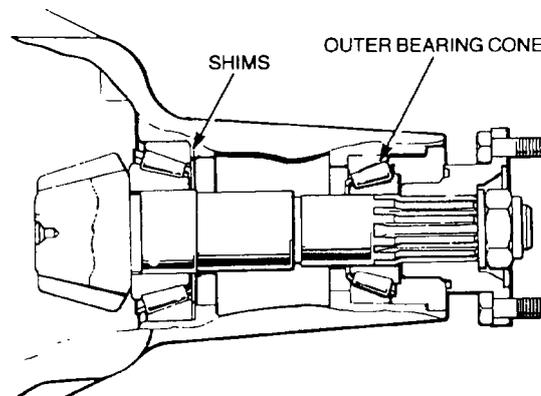

Figure 224 Installing the Pinion Shaft
- k. If the stylus has moved down, the amount is equivalent to the thickness of shims that must be removed from under the pinion inner bearing cup to bring the pinion down to the nominal position (Figure 224). If the stylus has moved up, the amount is equivalent to the additional thickness of shims required to bring the pinion up to the nominal position.
- n. Adjust the shim thickness behind the pinion inner bearing cup (Figure 224) by the amount determined in sub-para l and m and recheck the pinion height settings as described in sub-para j and l. If the setting is correct, the mean reading on the dial indicator will agree with the figure marked on the pinion end-face. For example, with an end face marking of +4, the dial indicator reading should indicate that the pinion is 0.004 in below nominal. The shim thicknesses are in thousandths of an inch and are supplied in thicknesses of 0.003 in, 0.005 in, 0.010 in and 0.030 in.